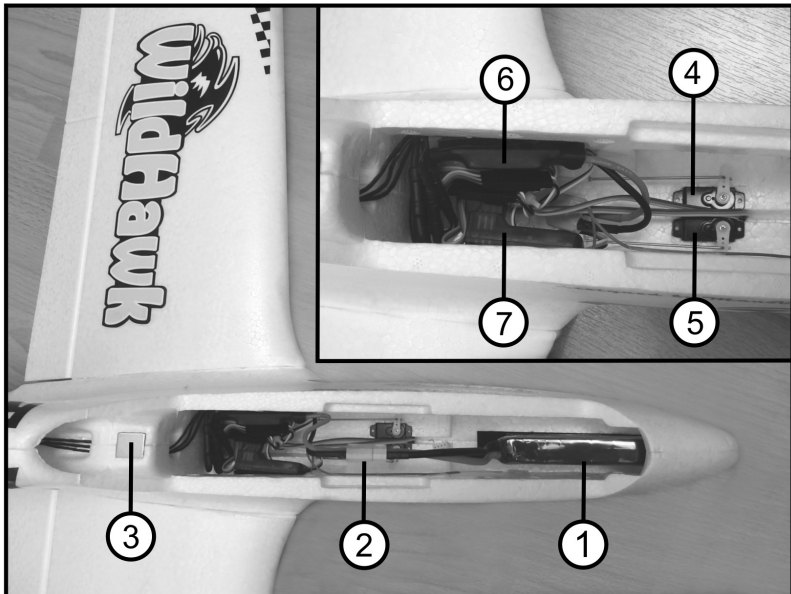

Figure 8
The 2-wire connection cable at the rechargeable battery (4) supplies the drive motor with power. This cable is later connected to the flight controller in the model (also see figure 8). This cable must not be connected to the flight controller while charging.
Lift off the canopy for the following work. It is fastened to the fuselage with a magnet (also see figure 8, item 3). To lift it off, pull the canopy up a bit vertically at the ventilation entrance at the motor pylon.
Put the rudder horns of the servos for elevator and rudder at precisely 90° to the servo casing (also see figure 8, item 4 + 5).
Figure 8 shows the position of the flight battery (1), the plug system (2), the magnets for the cabin holder (3), the elevator servo (4), the rudder servo (5), the flight controller (6) and the receiver (7).
Figure 8 shows the rechargeable battery in the standing position. Depending on the size of the rechargeable battery and the necessary position to reach the correct centre of gravity, it may be necessary to position the rechargeable battery in the fuselage in the lying position to close the canopy.
Connect the flight battery to the flight controller (see figure 8, item 2). The flight controller now checks the "Motor off" control signal of the transmitter. Depending on how the flight controller is programmed, the flight controller's readiness for operation is signalled by different signal sounds.